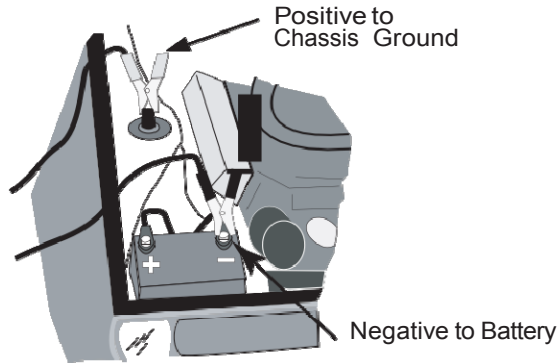

Figure B.4. Positive Ground
2. Connect the NEGATIVE (black) clamp from the battery charger to a heavy gauge metal part of the vehicle chassis or engine block away from the battery. DO NOT connect the NEGATIVE (N) (black) charger clamp to the NEGATIVE battery terminal, carburetor, fuel lines, or sheet metal body parts.
b. Positive ground vehicles (see Figure B.4)